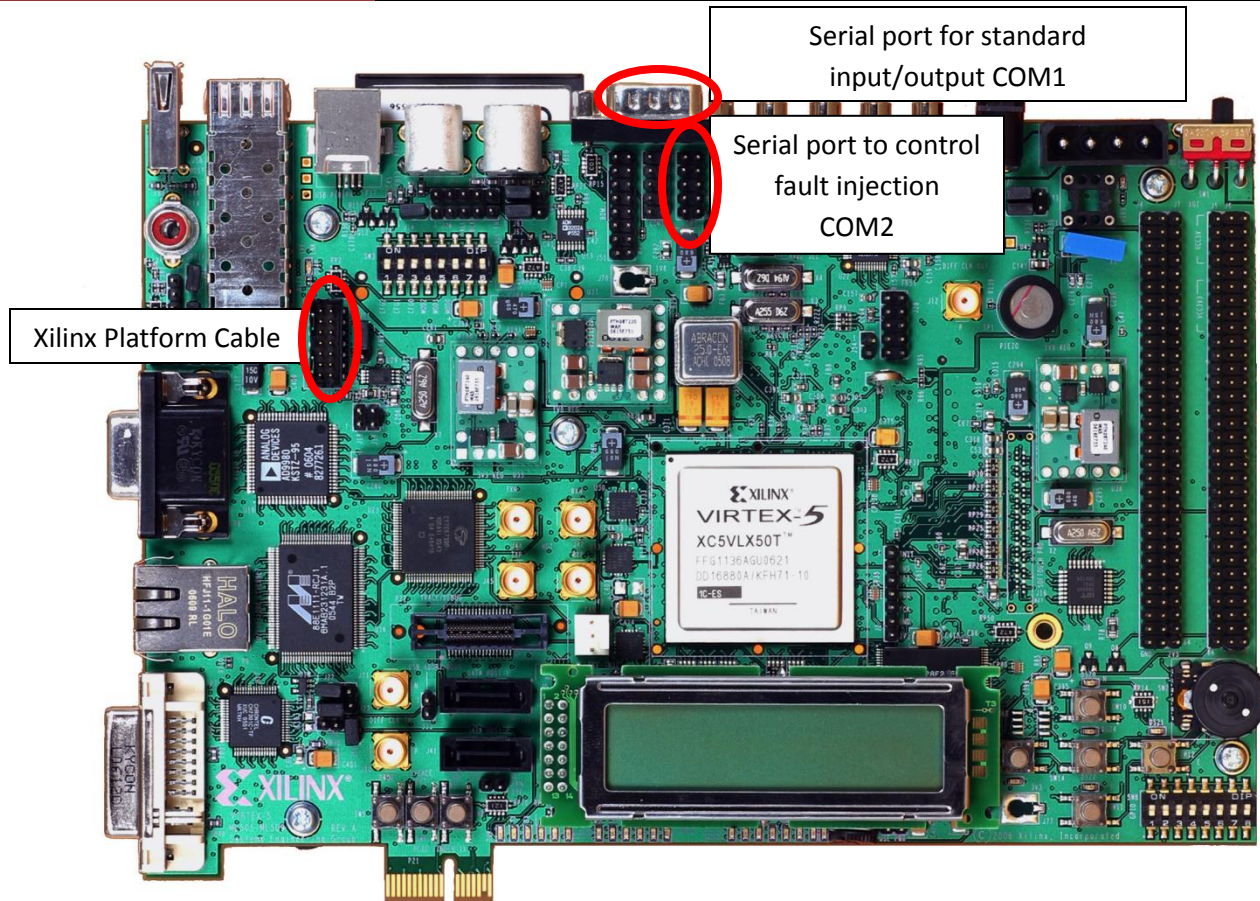

FIGURE 5 – XUP VIRTEX5 BOARD CONNECTIONS
3. Connect a first null model serial cable the COM1 port on the board. Such port is located on the top of the board in Figure5 and it consists of a 9-pin connector with a rounded-corner trapezoid shape. Connect the other end of the serial cable to your host. This communication channel will be used for the standard I/O of the design under test.